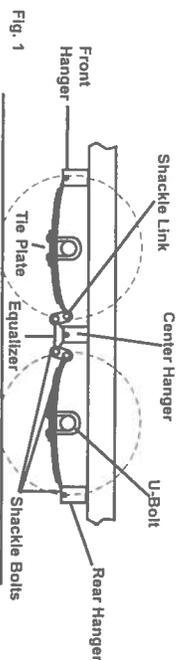

Fig. 1
2. For Leaf Spring axles, use all AP Kits provided with axle to install as shown in Fig. 1 below and torque fasteners as specified in the chart below.